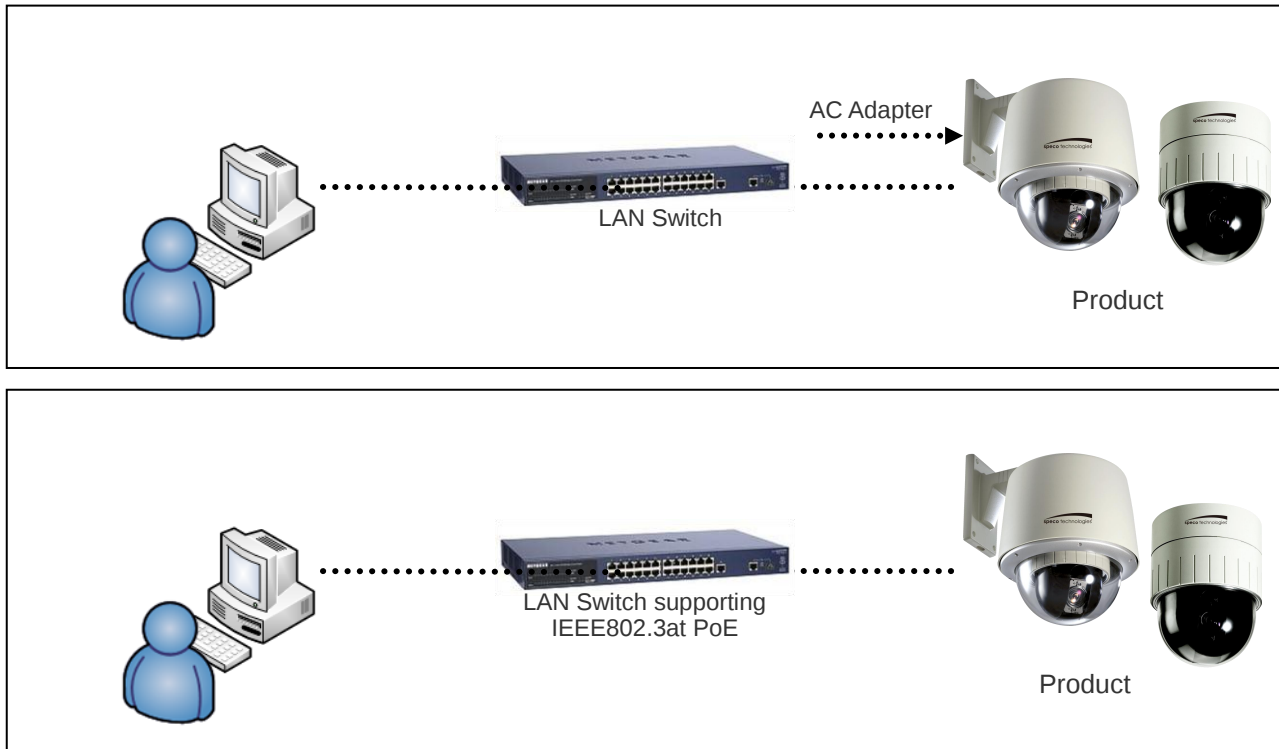

Fig 4-1. LAN Cable Connection Diagram
- II. Connect PC with Product as in Fig 4-1.